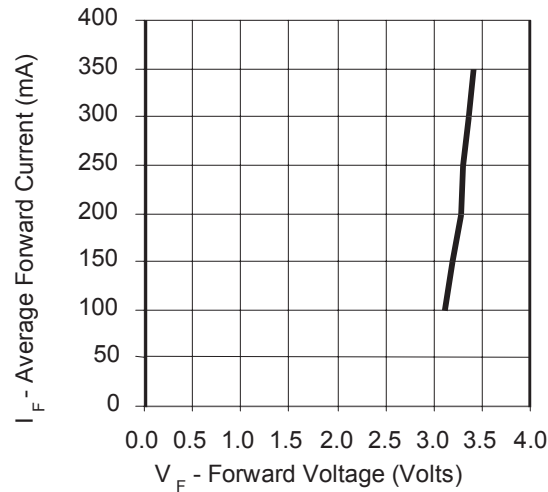

Figure 3a. Forward Current vs. Forward Voltage for White, Warm White, Green, Cyan, Blue, and Royal Blue.
2. Dynamic resistance is the inverse of the slope in linear forward voltage model for LEDs. See Figures 3a and 3b. Measured between  $25^\circ\text{C} \leq T_J \leq 110^\circ\text{C}$  at  $I_F = 350\text{mA}$ .